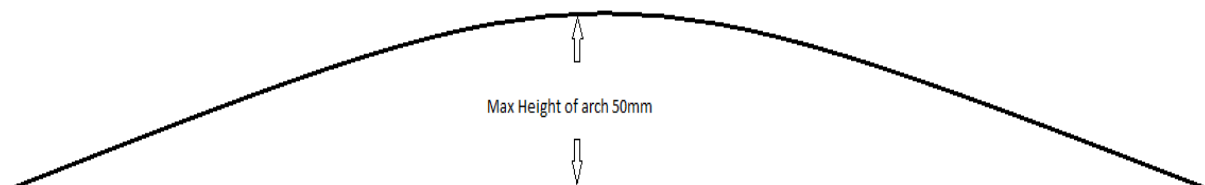

Fig 1
- The maximum recommended height of the arch of the solar panel is 50mm. The surface curvature must be uniform across the length of the solar panel. Any high spots may cause damage to the solar cells, see fig 1